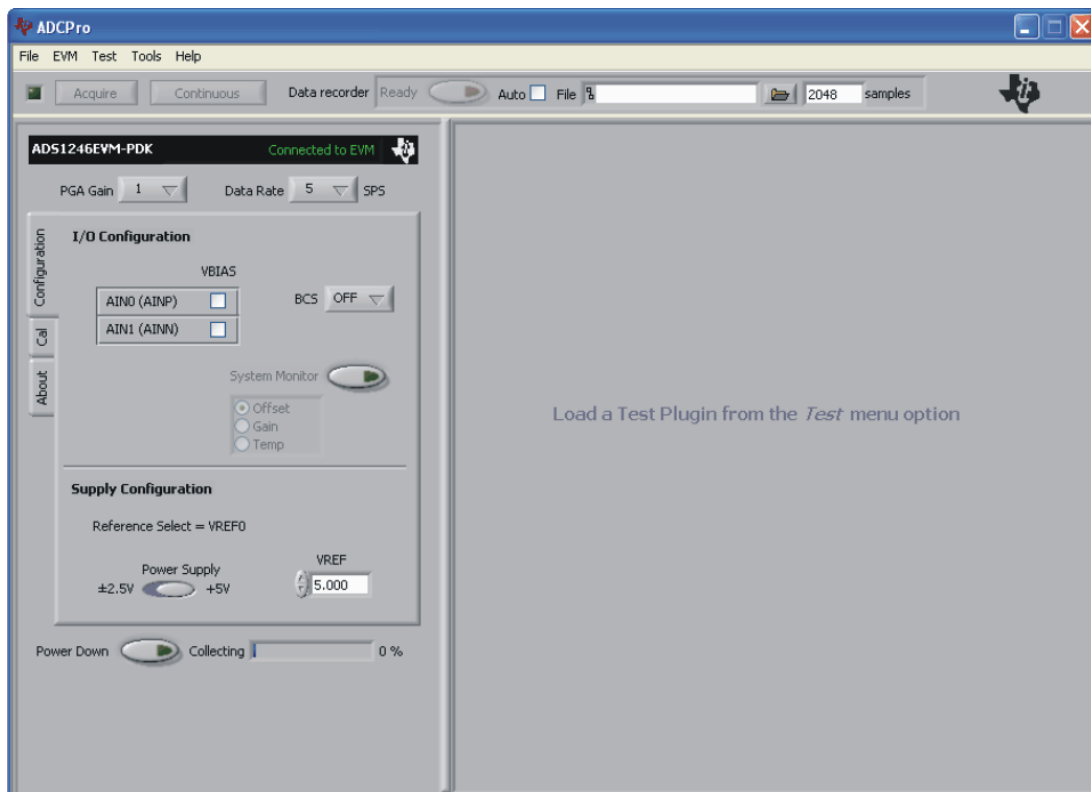

Figure 10. ADS1246EVM-PDK Plug-In Display Window
Step 2. Select *ADS1246EVM* from the EVM drop-down menu. The ADS1246EVM-PDK plug-in appears in the left pane, as shown in Figure 10.